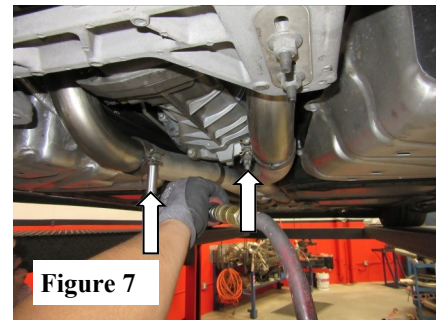

Figure 7
5. Insert right-side rear assembly over rear-axle and insert inlet to installed H-Pipe. Carefully insert hangers into rubber isolator. (See Fig. 7) **DO NOT TIGHTEN HARDWARE.**
6. Repeat step 4 for the left-side rear assembly. (See Fig. 7)